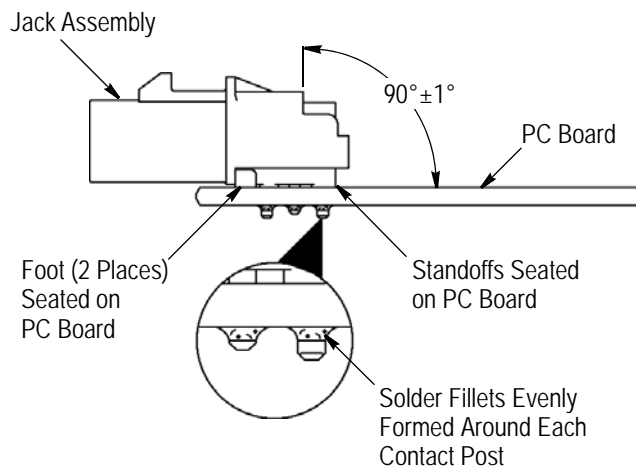

Figure 3
5. Refer to Figure 3, and inspect the installed jack assembly according to the following: